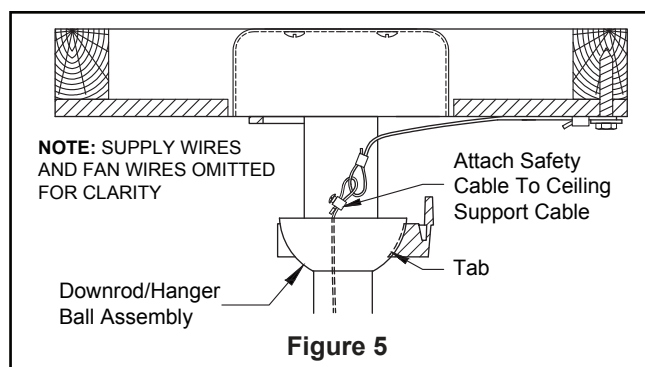

Figure 5
- ☐ 5. Slide downrod into the downrod support on top of the motor. Install the clevis pin by aligning the holes in the downrod support with holes in the downrod. Secure clevis pin with hairpin clip. Tighten the two set screws with nuts in the downrod support. (Figure 5)
- ☐ 5. Carefully lift the fan and seat the downrod/hanger ball assembly onto the hanger bracket that was just attached to the ceiling joist. Be sure the groove in the ball is lined up with tab on the hanger bracket. (Figure 5)
- ☐ 6. Attach the safety cable to ceiling support cable. Slide cable clamp onto safety cable (from fan). Place the end of cable through the loop of ceiling support cable. Pull as much cable through loop as possible. Feed end of cable into clamp hole and firmly tighten screw (Figure 5). Cut off excess safety cable.